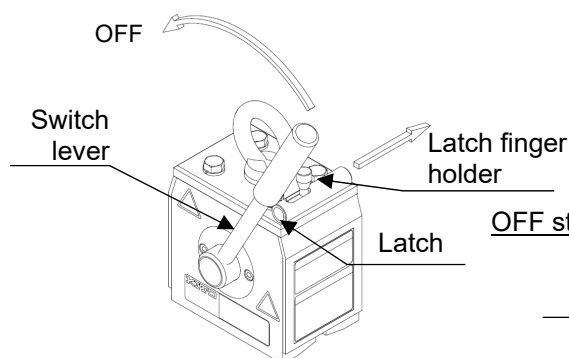

Figure 10-3 KRD8, KRD16
(8) Lower the load to the ground only after confirming safety of the surrounding area.
(9) Confirm complete grounding before releasing the latch lock. Grip the switch lever and conduct the following operation.
- KRD8, KRD16: Put a finger into the latch finger holder and press the latch toward the main body side (Figure 10-3).